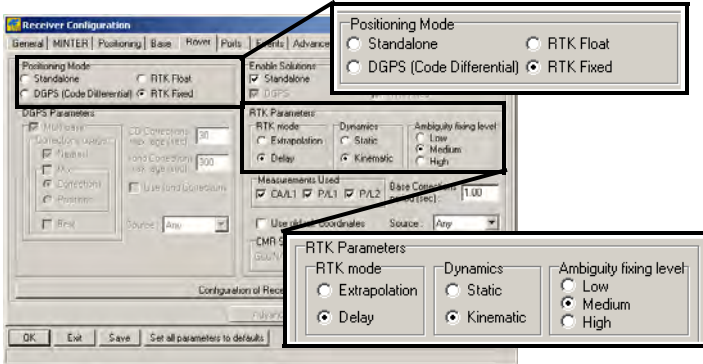

Figure 3-36. Rover Configuration
11. For RTK surveys, click the **Ports** tab and set the following port parameters for the serial port (Table 3-4), then click **Apply** (Figure 3-36 on page 3-39).